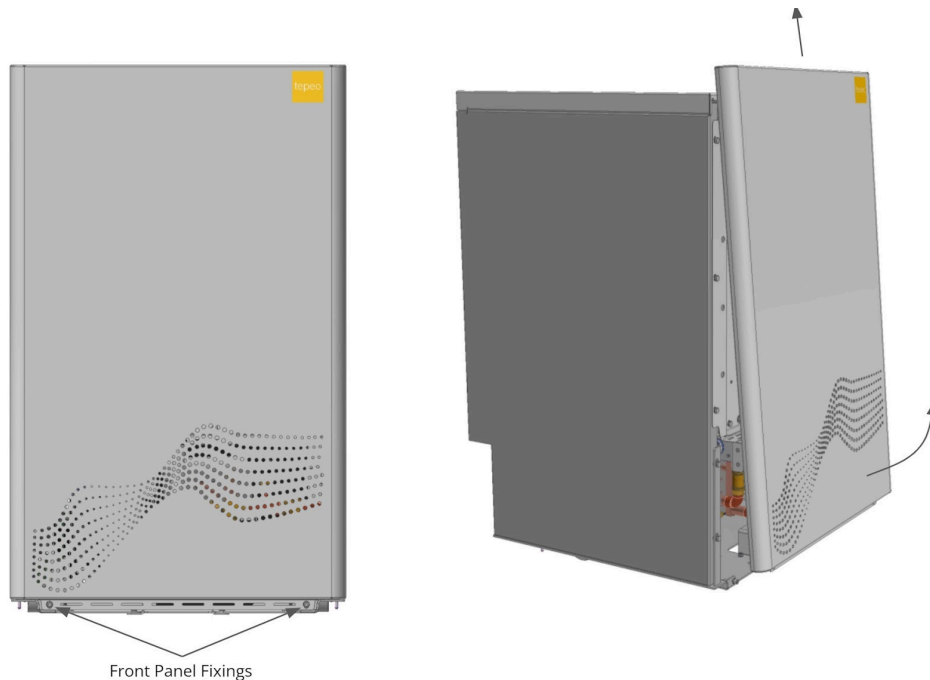

Figure 14: Front dress panel removal
- The front cover can now be lifted off and removed, in an up-and-away movement as shown in **Figure 14**